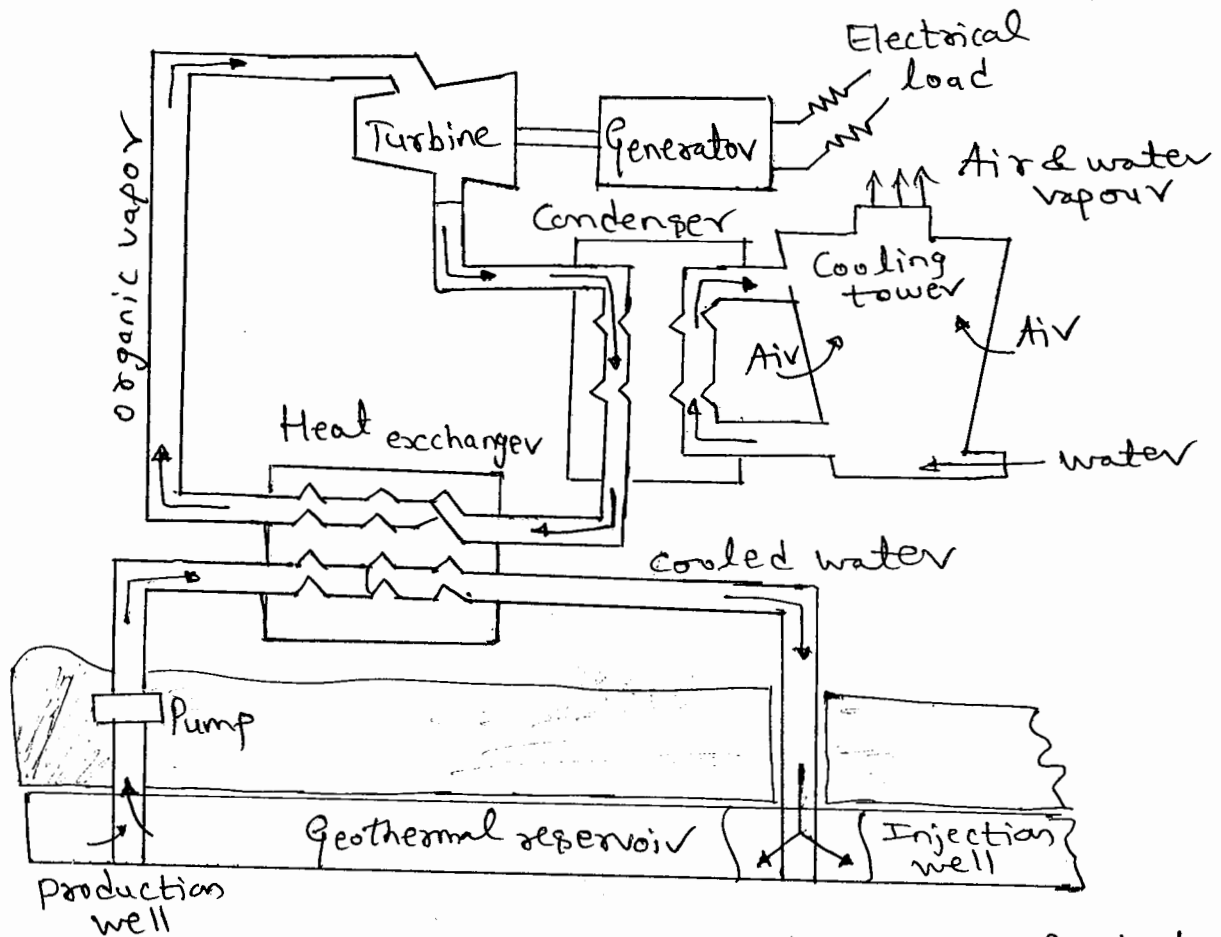

Figure 5 Binary cycle - based geothermal electric power plant.
- * Approximately 15% of all geothermal power plants utilize binary conversion technology. It is shown schematically in Figure 5.